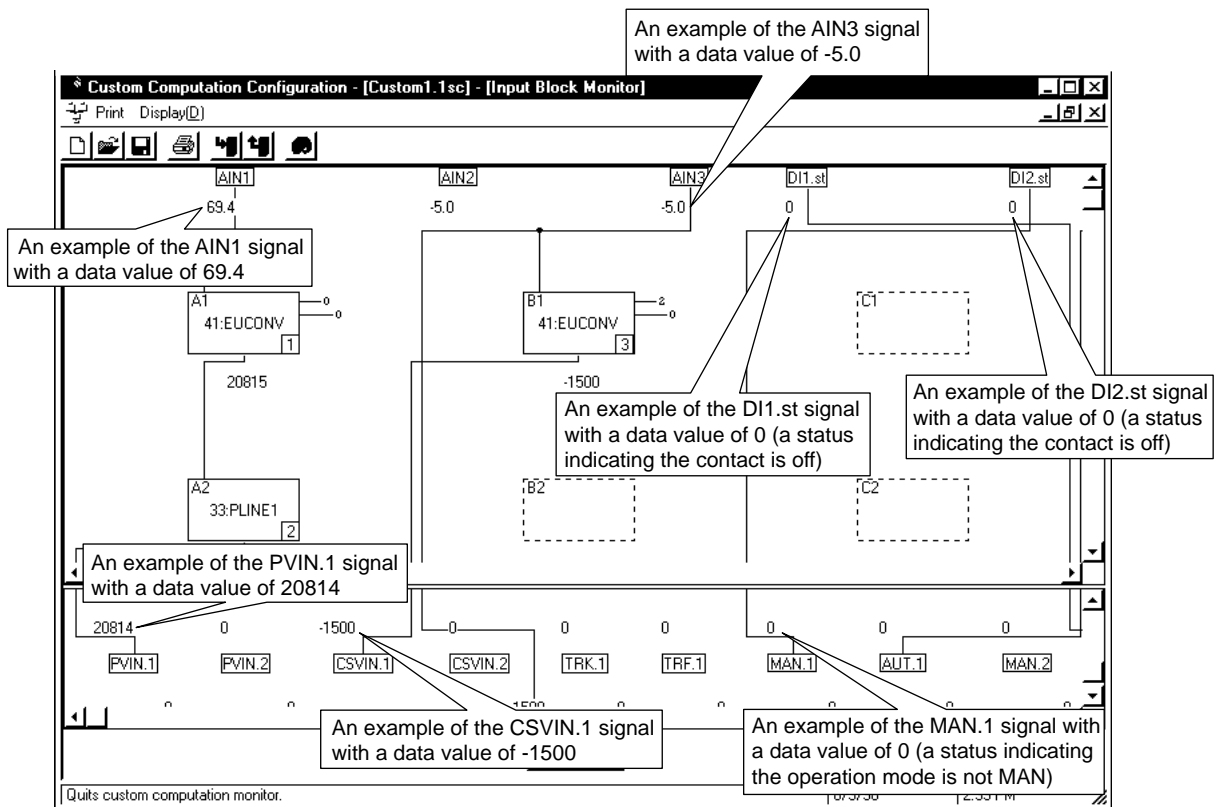
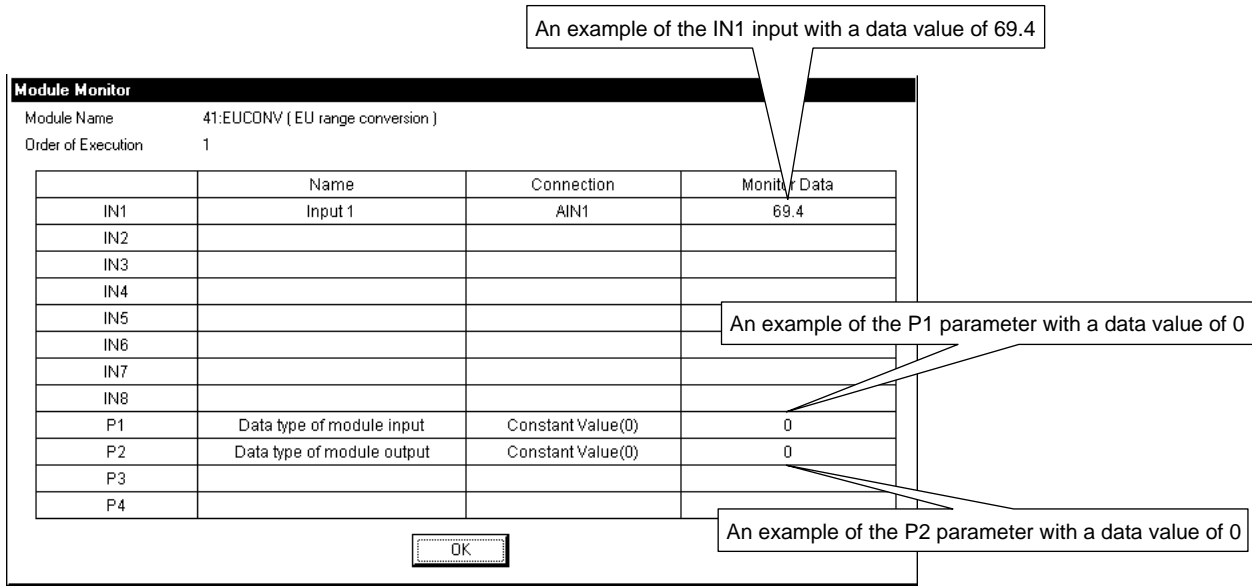

Figure 11.2.2 Example of [Input Block Monitor] View
Figure 11.2.3 Example of [Module Monitor] View
In the [Input Block Monitor] view (Figure 11.2.2), you can monitor the signals listed in the following table.
- ② Match the communication conditions of the US1000 controller with those of the personal computer, and then click the <OK> button.
- ③ The [Input Block Monitor] view (Figure 11.2.2) appears.
In the [Module Monitor] view (Figure 11.2.3), you can monitor the signals listed in the following table, module by module.
- ① Double-click the computation module in the [Input Block Monitor] view (Figure 11.2.2). The [Module Monitor] view (Figure 11.2.3) appears.